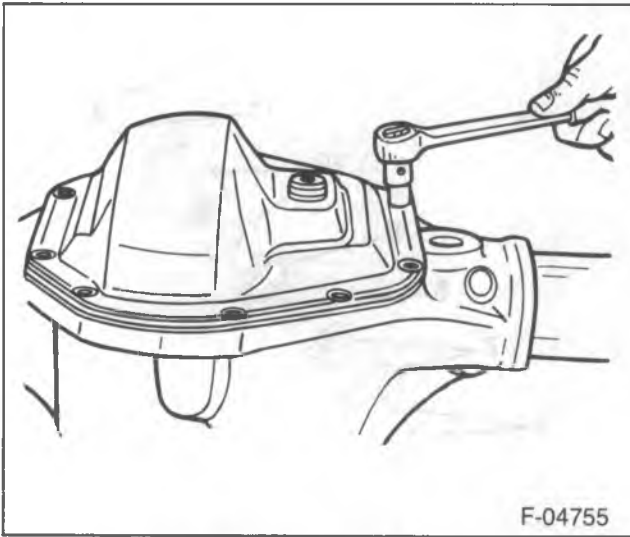
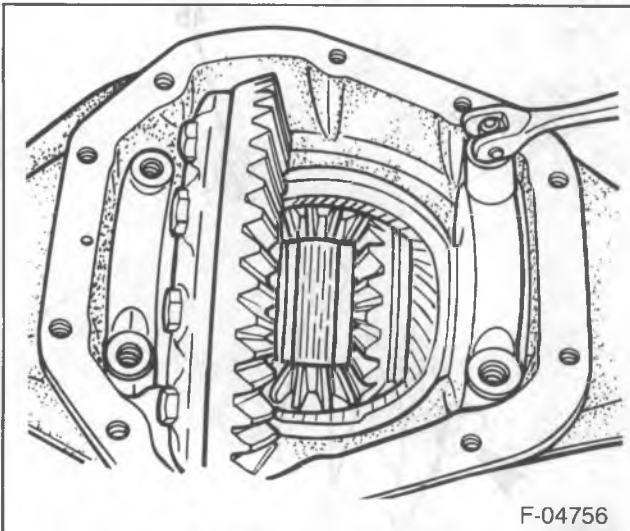
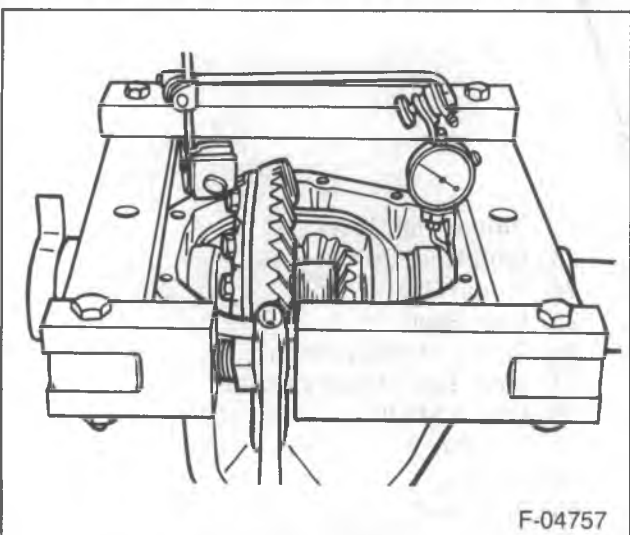

Figure 2—Removing the Axle Cover
Figure 3—Removing the Bearing Cap
Figure 4—Spreading the Differential Case
1. The differential cover bolts (17) and the differential cover (14) (figure 2).
2. Axle shafts (38). Refer to the proper Light Duty Truck Service Manual.
3. Bearing cap bolts (19) (figure 3).
4. Bearing caps (18).
- Assemble J 24385-01 to the differential housing as shown in figure 4.
- Assemble the dial indicator as shown in figure 4. Preset the gage at least 0.50 mm (0.020-inch), and then rotate the gage housing to zero the dial.